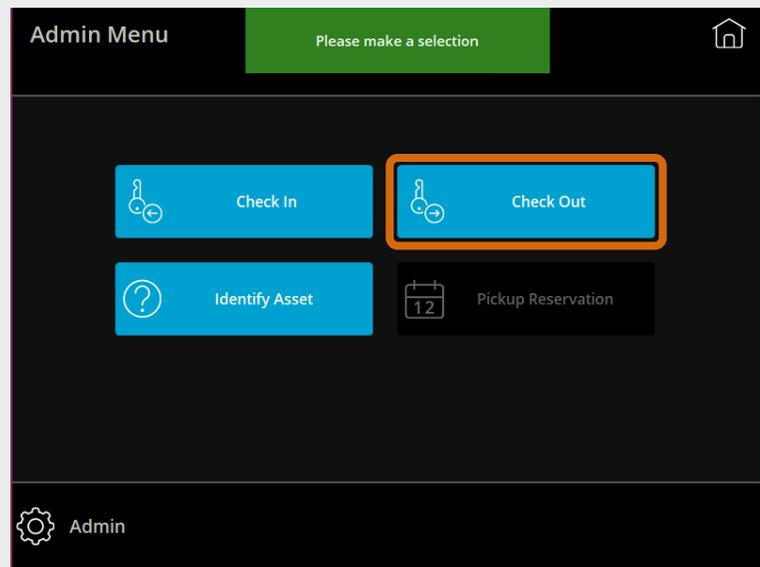

Fig. 43 – Admin Menu with Check Out button indicated
2. Press **Check Out**, as shown in Fig. 43.